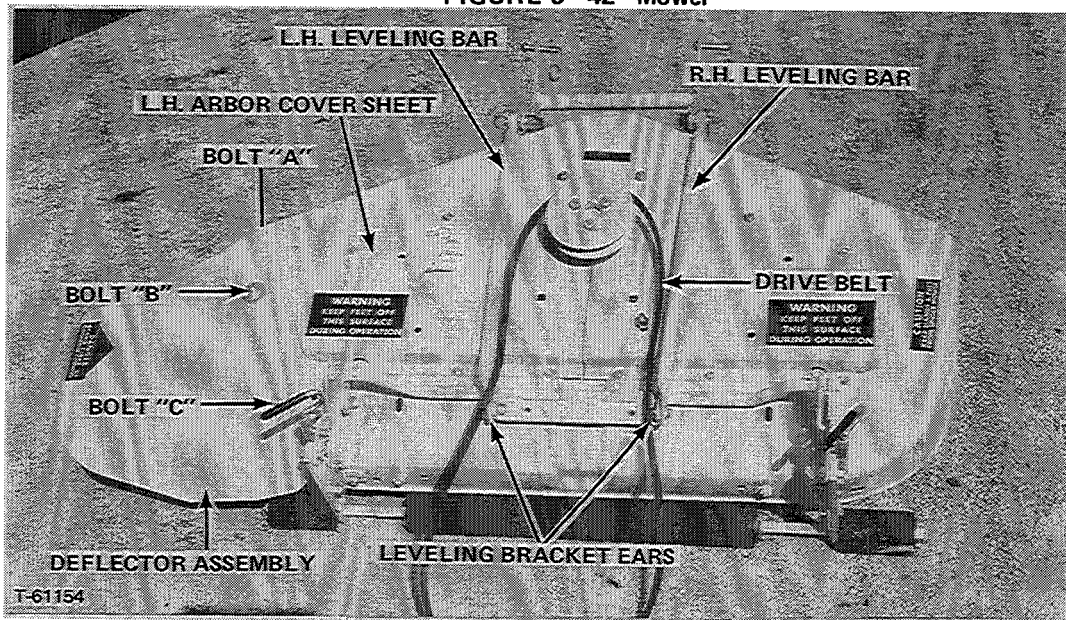

FIGURE 10 - 42" Mower Set-Up
5. Fasten the rear of the right hand and left hand leveling bars to the outside of the leveling bracket ears with bolts, spacers, flat washers, lockwashers and nuts as shown in Figure 10.
6. Bolt the discharge deflector to the L.H. end of mower housing, slipping notch in front leg of deflector under large flat washer on bolt "A" and installing bolt, flat washer, lockwasher and nut at holes "B" and "C" (Figure 10). Tighten bolts securely.